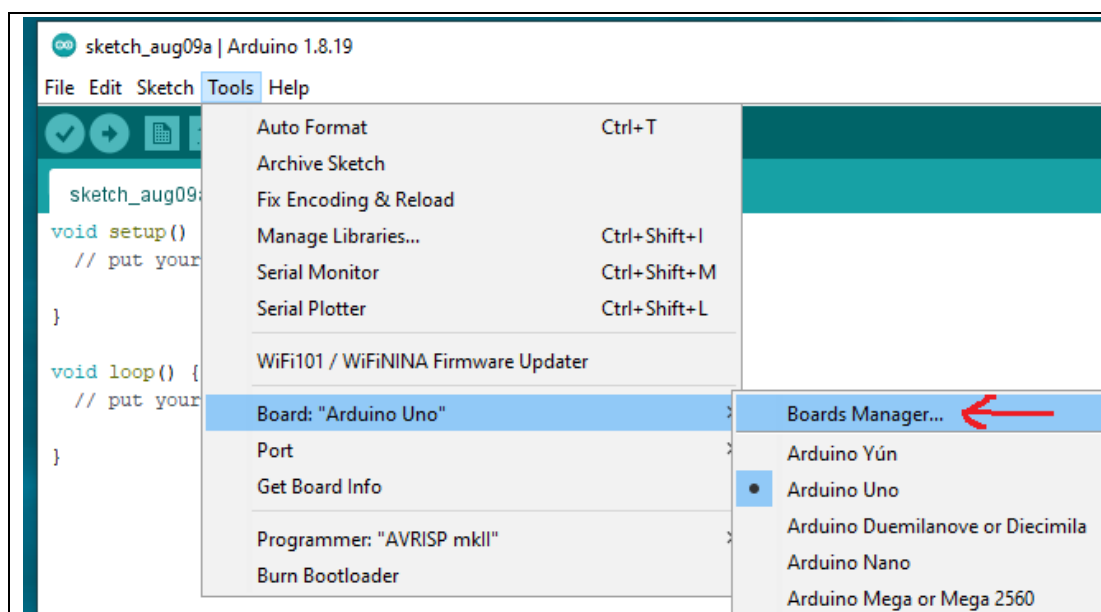

Figure-1.6. Select Boards Manager
8. In Arduino IDE, select 'Tools' 'Board: xxx' 'BoardManager...' to change the board. (Figure-1.6)